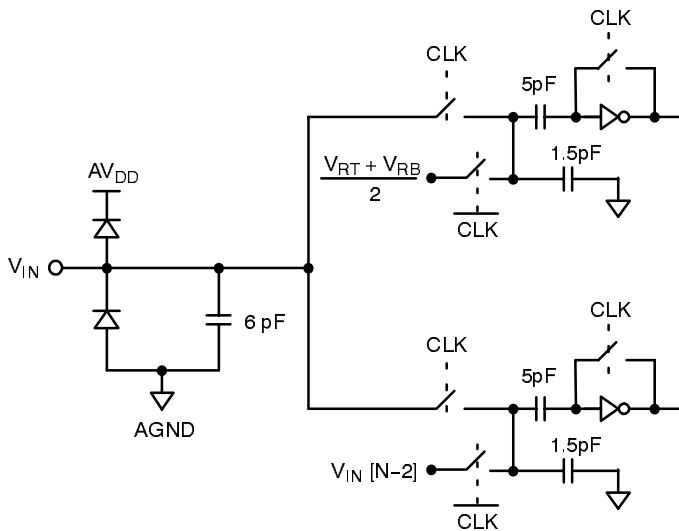

Figure 4. Equivalent Input Circuit
- ⁵ See V_{IN} input equivalent circuit (Figure 4.). Switched capacitor analog input requires driver with low output resistance.